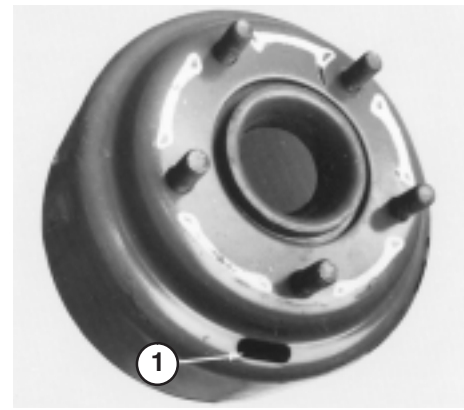
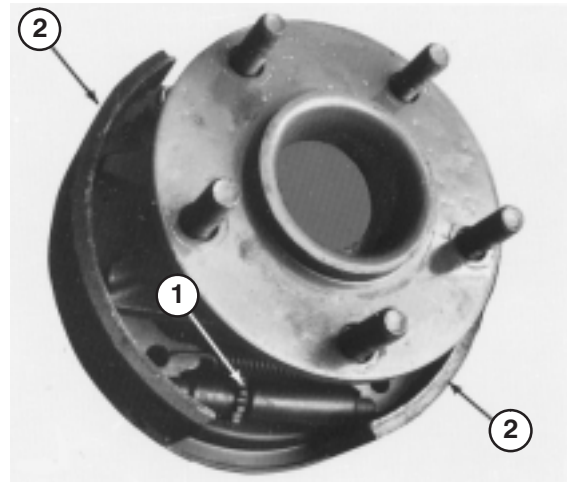

Figure 64
Figure 65
5. Remove wheel nuts and slide wheel and tire assembly off studs. Rotate brake drum until adjusting slot is at bottom and centered over star nut that adjusts brake shoes (Fig. 64).
6. Using a brake adjusting tool or screwdriver, rotate star nut (Fig. 64) down until brake drum (Fig. 65) locks because of outward pressure of brake shoes (Fig. 65).